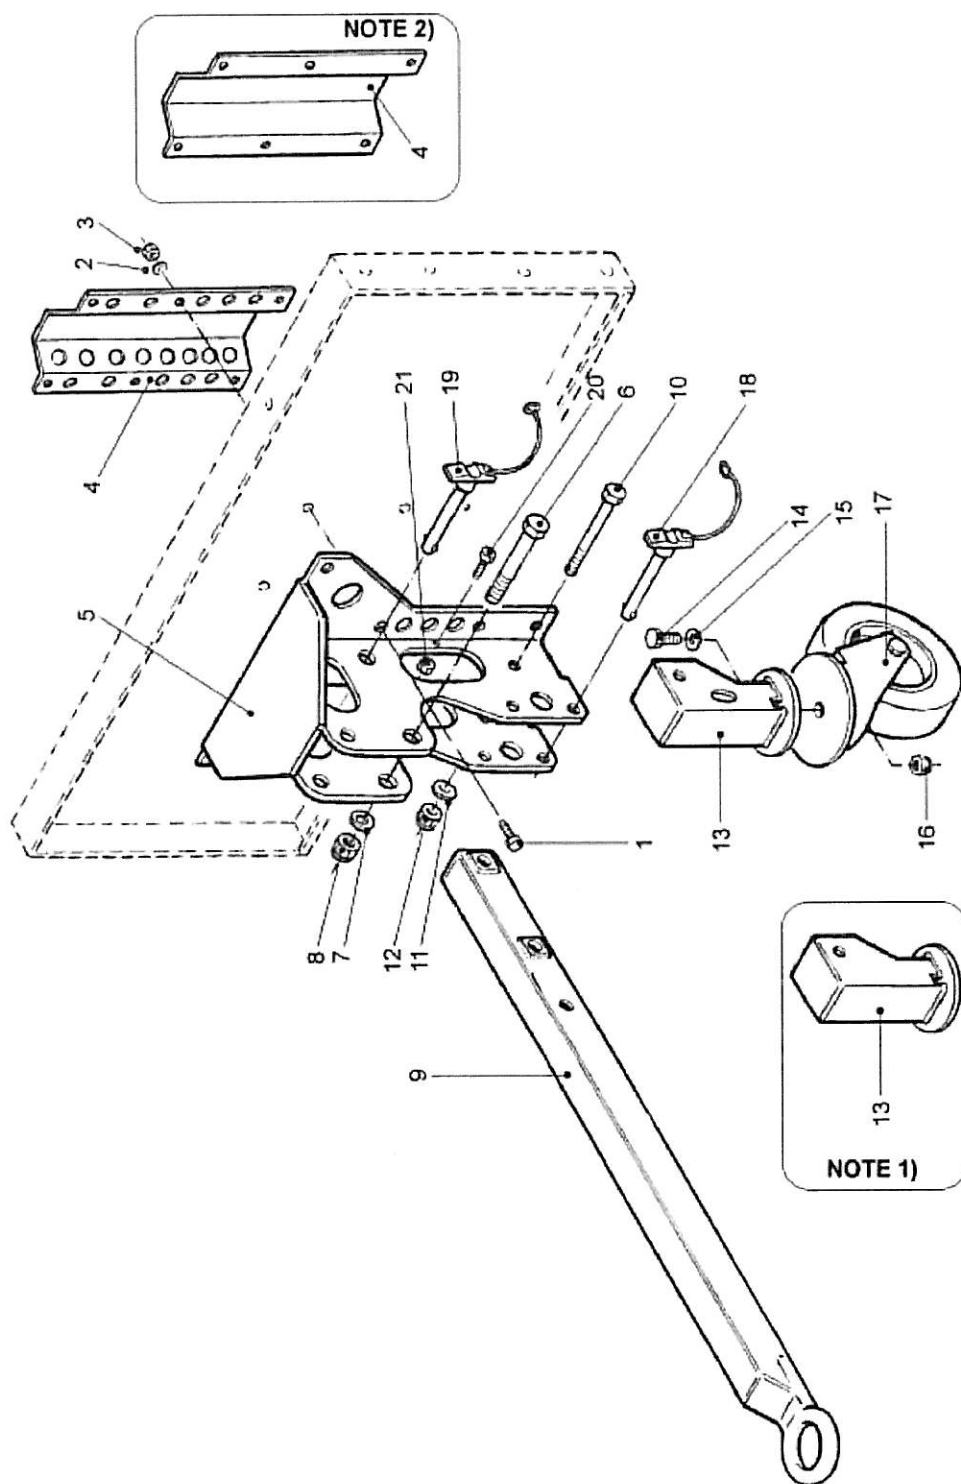

FIGURE 6-6. TOWBAR/FRONT WHEEL GROUP
- FIGURE 6-5, INDEX 3, TRAILER FRONT PANEL; STARTING FROM SERIAL NUMBER 2112-03-1332 SHEET METAL HAS CHANGED FOR HEAVIER GAUGE (3,0 MM). ALSO SEE 13, FIGURE 6-6 AND NOTE 1.
- SERIAL NUMBERS BETWEEN 2112-01-0001 ... 2112-03-1331; ORIGINALLY USED DESIGN FOR WHEEL BLOCK (13, FIGURE 6-6). A NEW REINFORCED WHEEL BLOCK IS FACTORY INSTALLED FROM SERIAL NUMBER 2112-03-1332 ON. SEE ADVISORY.
- BRACKET, BRACE (4, FIGURE 6-6); STARTING FROM SERIAL NUMBER 2112-04-2356.